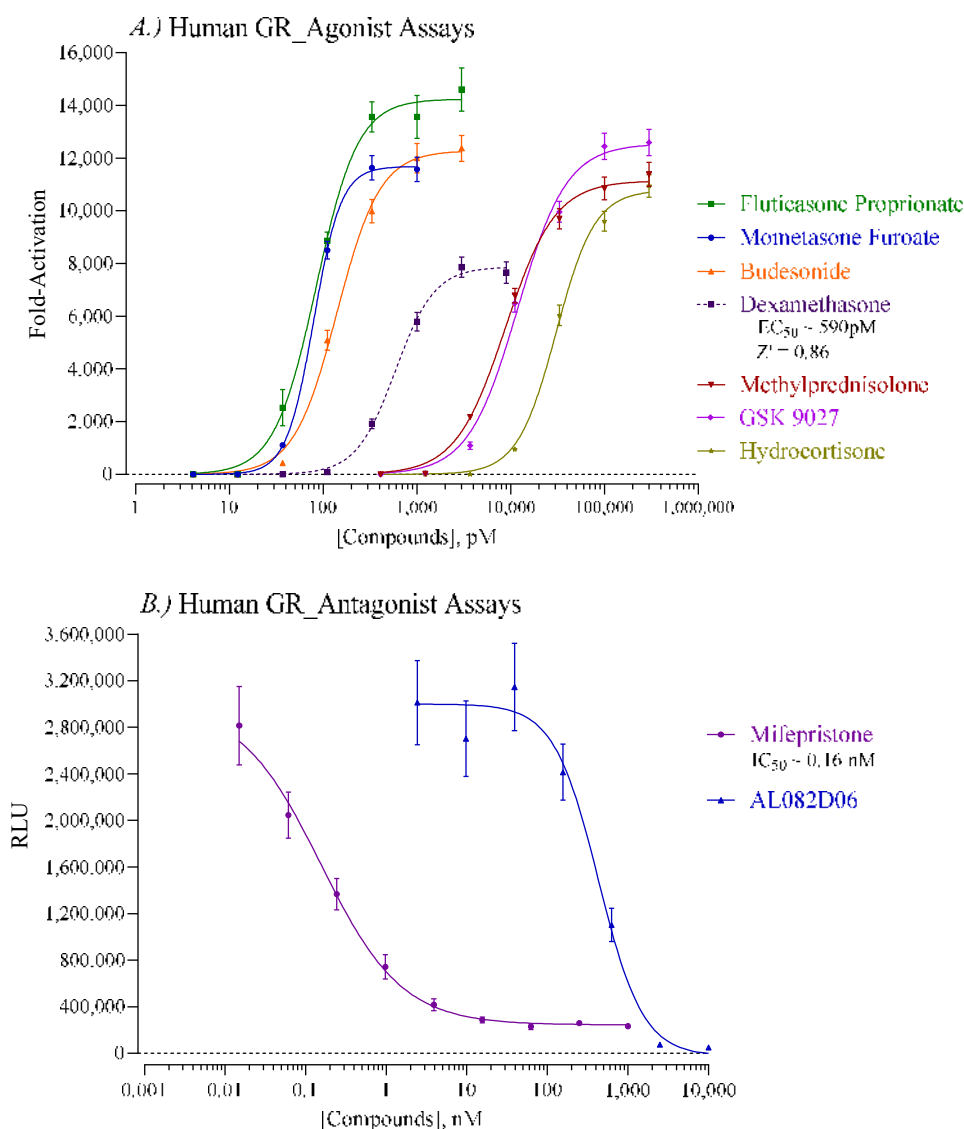

Figure 2. Human GR assay performance
- *Optional*: antagonist reference compound (*e.g.*, Fig. 2)